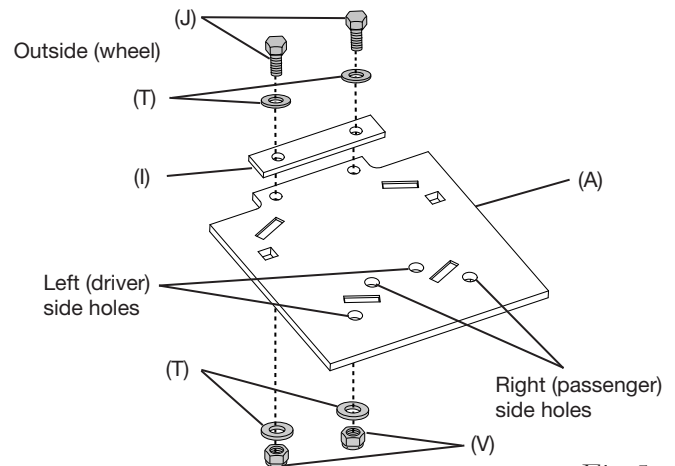

Fig. 5
2. Install the swivel elbow fitting (CC) into the top of the air spring finger-tight. Tighten the swivel fitting one and a half turns.
3. The lower bracket (A) has two sets of air spring mounting holes. Using the corresponding holes in the lower bracket designated (fig. 5), attach the air spring to the brackets using the 3/8" flat washers (W), lock washers (EE), and 3/8"-24 x 7/8" hex head cap screws (DD). Tighten both mounting screws securely.
1. Attach the adapter (I) to the lower bracket (A) using two 5/16" bolts (J) four flat washers (T) and two nylon lock nuts (V) (fig. 5 or 11). Tighten securely.